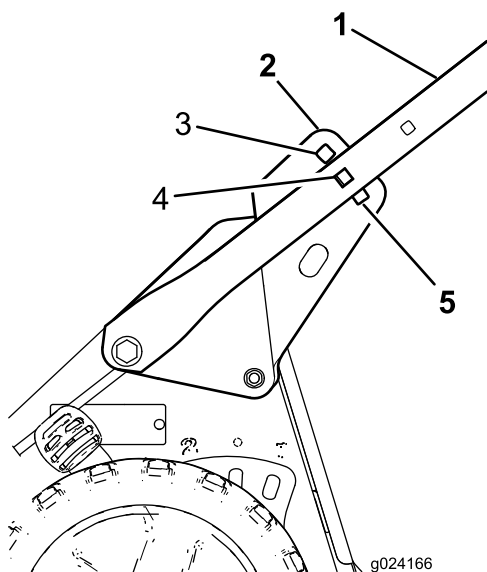

Figure 4
- Stand behind the machine in the operating position to determine the handle height that is most comfortable for you (Figure 4).